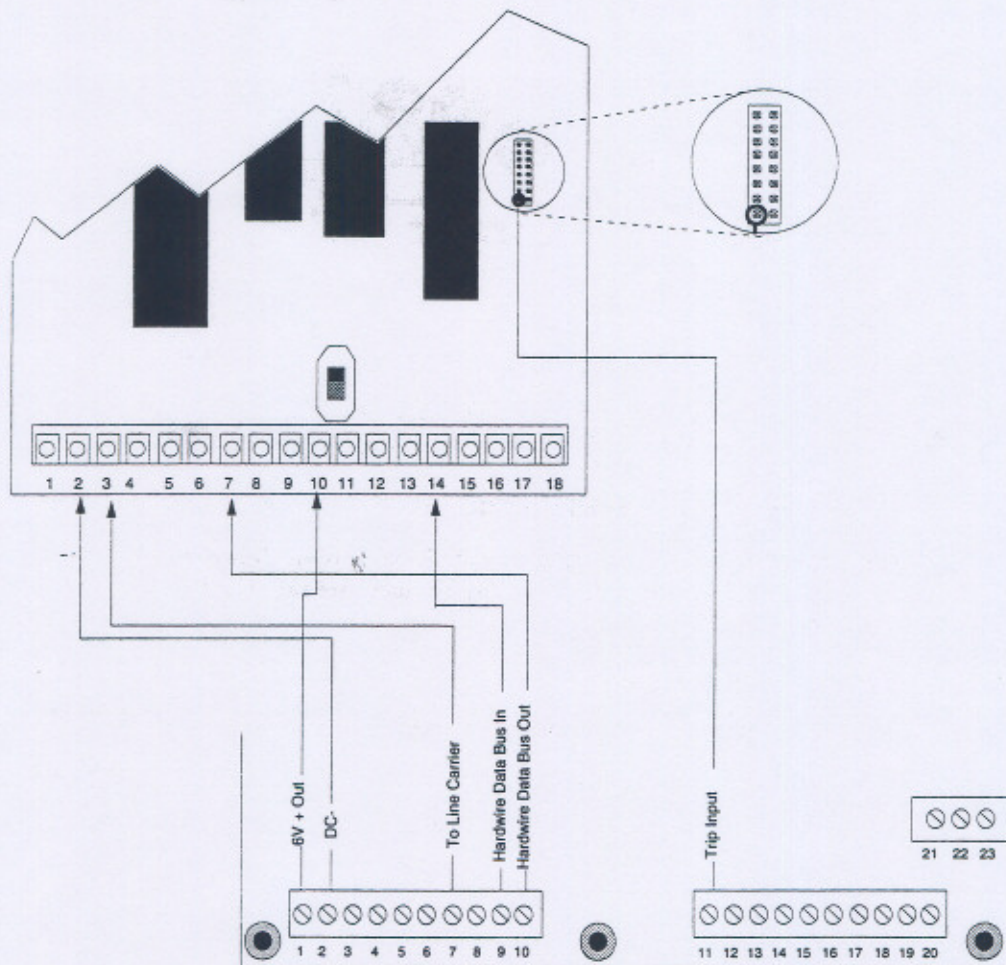

Figure 2.6 SX-V to Interrogator Wiring Diagram
2. Wire the Interrogator Module to the SX-V, using a 6-conductor 22-gauge stranded wire (see Figure 2.6).